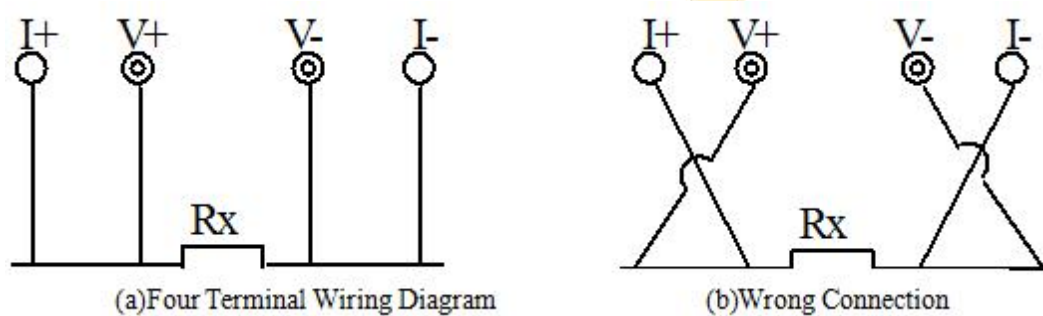

Figure 3 Four terminals Wiring Diagram
1. Wiring connection as per Figure 3